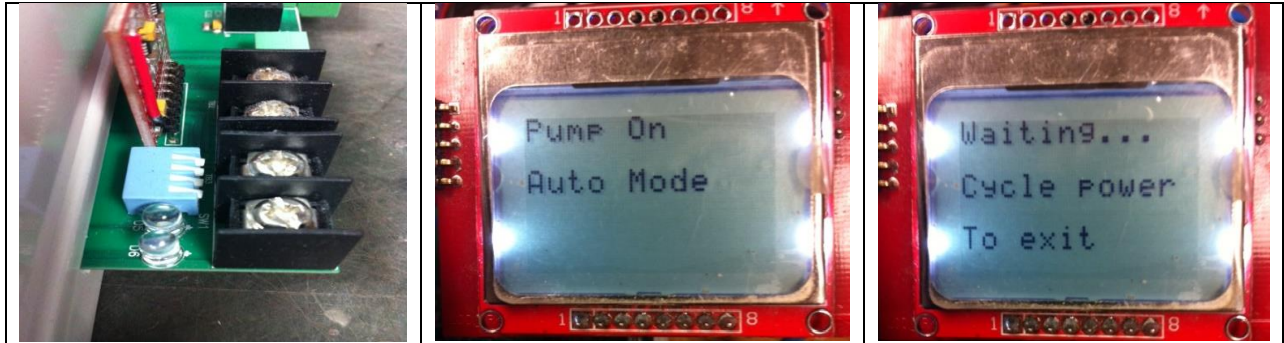

Fig.1 Rear side showing the DIP switch setting for pump mode operation. The LCD images at right show the response to selecting this mode.
2) Remove the power to the controller. Set the DIP switches to the off (down) position as shown in Fig.2 and then apply power to the controller. After a short delay the controller will indicate that the pump has been configured in Pump Auto mode as shown in the middle photo for Fig.1, and then show the message waiting for the user to cycle the power (turn it off and back on after a short wait) to the controller to complete the selection.
When all of the switches are in the down position as in Fig.1 when power is applied, the LCD contrast can be adjusted at the same time. The LCD contrast is dependent on the ambient temperature and could require a minor adjustment for seasonal conditions.